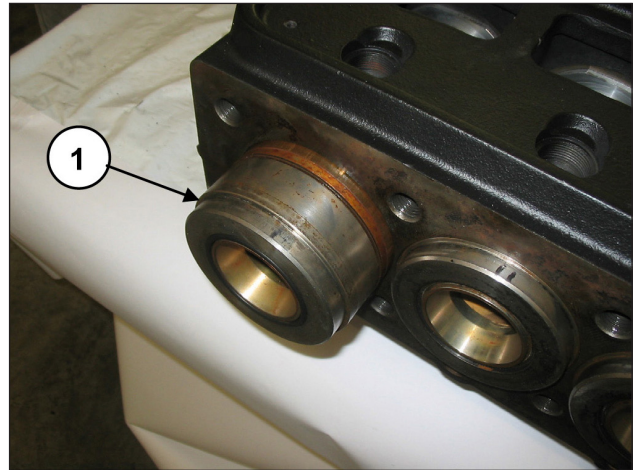

Fig. 114
Turning the shaft, have the piston guide move forward so that the buffer, moving ahead, can expel the seal support and the entire piston unit (pos. ①, Fig. 114).